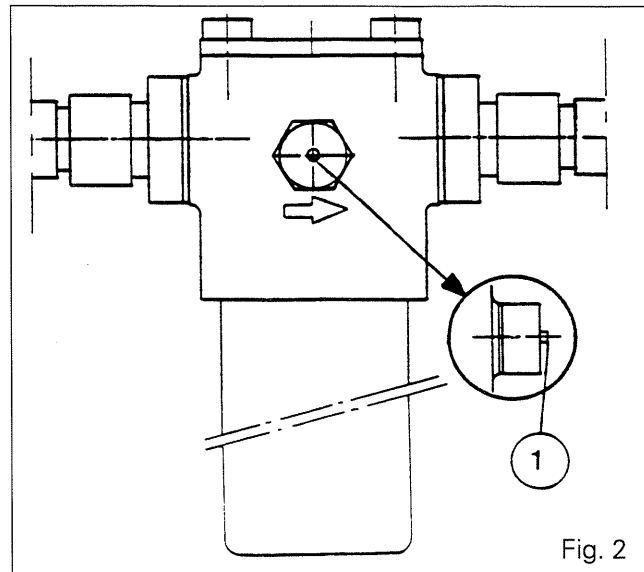

Fig. 2
During the decontamination process, the operator must keep a check on the clogging indicator on the filter. When the filter element is clogged, the nipple (1) is extended (Fig. 2).